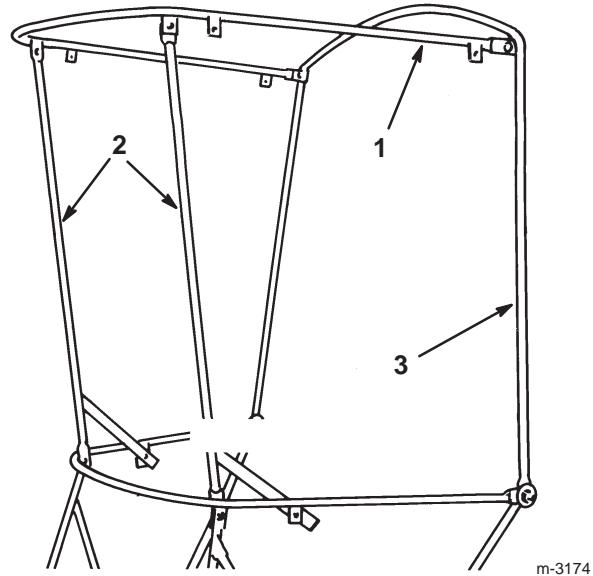

**Figure 6**
9. Mount each side of vertical bow (Fig. 6) to attaching brackets and rear horizontal curved bow with vertical bow positioned between brackets and curved bow (Fig. 6). Secure each side with a 1/4-20 x 1" lg. capscrew (capscrew heads inside the cab), (2) 1/4" flatwashers on